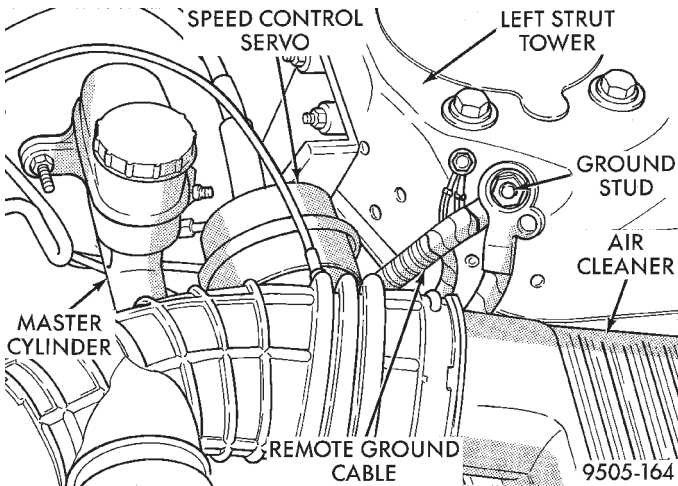
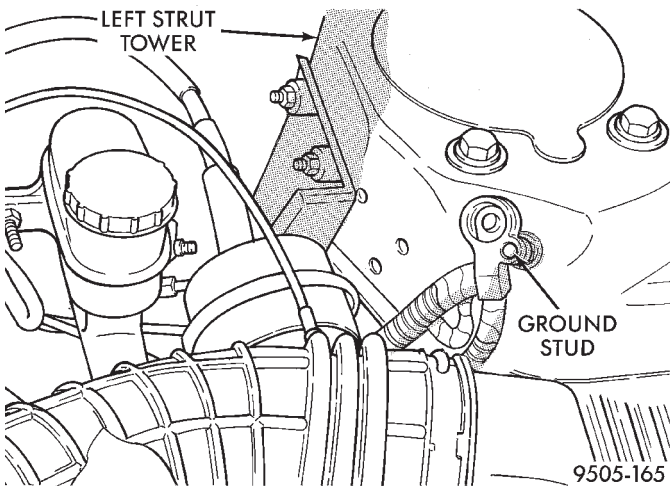
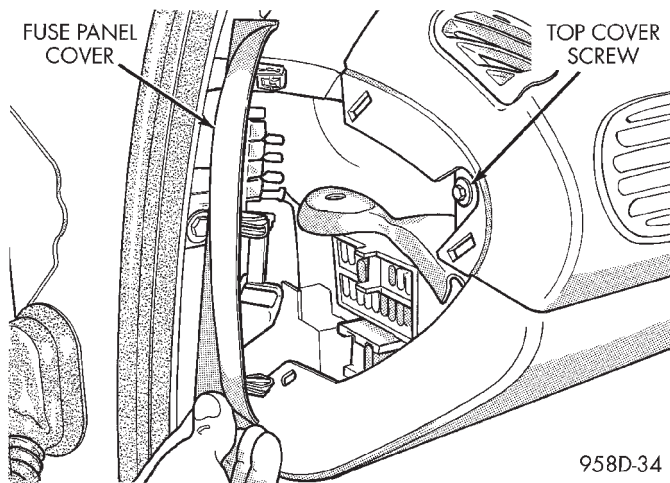

Fig. 2 Remote Ground Cable At Shock Tower
Fig. 3 Correctly Isolated Remote Ground Cable
Fig. 4 Instrument Panel Top Cover Attaching Screw
(1) Remove remote ground cable (Fig. 2) from ground stud on shock tower. Then correctly isolate ground cable from vehicle by installing isolator on stud (Fig. 3).
(3) Before beginning removal of steering column assembly from vehicle, be sure front wheels of vehicle are in the **straight ahead** position.
(4) Remove fuse panel cover from left end of instrument panel (Fig. 4). Then remove the screw behind fuse panel cover, attaching the instrument panel top cover (Fig. 4).